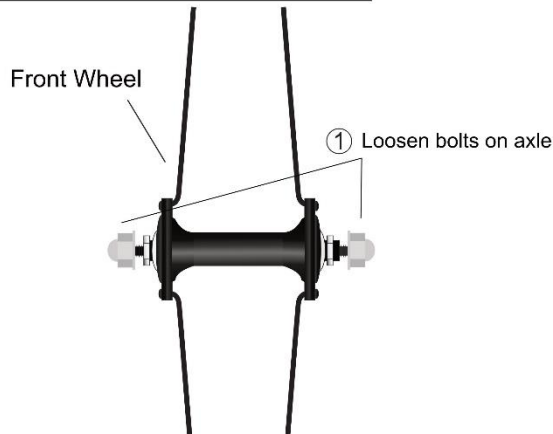

Figure 3 – Loosen Axle Bolts
- (1) **Loosen axle bolts** (See Figure 3). Loosen the axle bolts so that the fork wheel will install onto the fork.